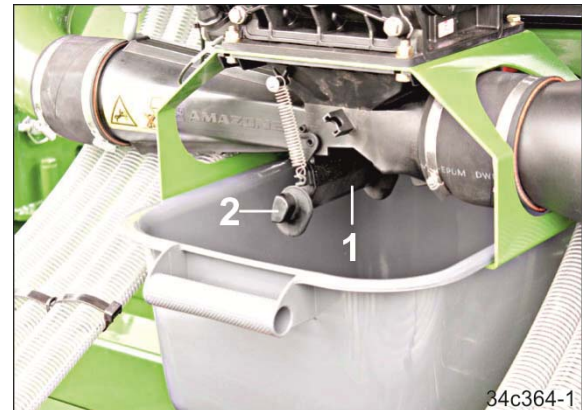

Fig. 157
7. Open the injector sluice flap (Fig. 157/1).
Only hold the injector sluice flap by the handle (Fig. 157/2), otherwise there is a risk of injury when the spring loaded flap snaps closed.